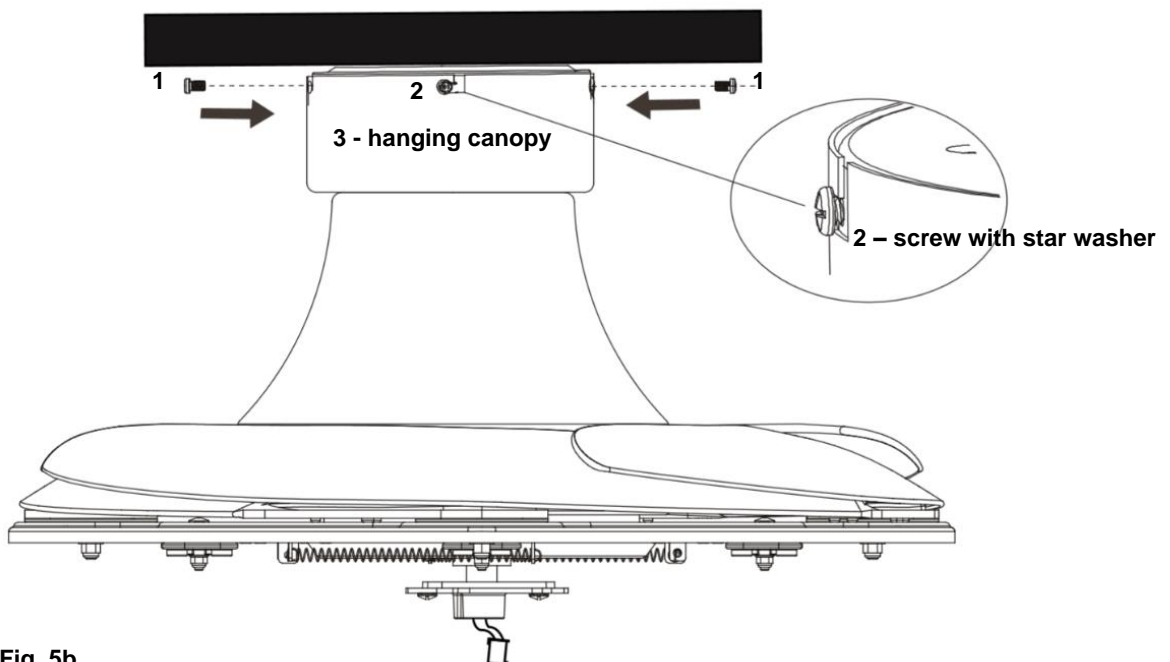

Fig. 5b
- Loosen two canopy screws (1) and remove from the mounting bracket.
- Loosen two canopy screws with star washer (2) by half thread from the mounting bracket. (For L-shape slot on canopy to be mounted).
- Lift the hanging canopy (3) of the fan assembly up to the mounting bracket and let the L-shape slot on the hanging canopy (3) go through the two canopy screws with star washer (2). (Fig.5b)
- Turn the hanging canopy (3) until it locks in place at the end section of the L-shape slot, ensure the star washer are between the hanging canopy (3) and screw head. Secure it by tightening the two canopy screws with star washer (2).
- Secure and tighten the canopy screws (1) to the mounting bracket. The hanging canopy (3) shall have 4 screws (1) & (2) in total. Avoid damaging the electrical wiring prepared previously when hanging the canopy.